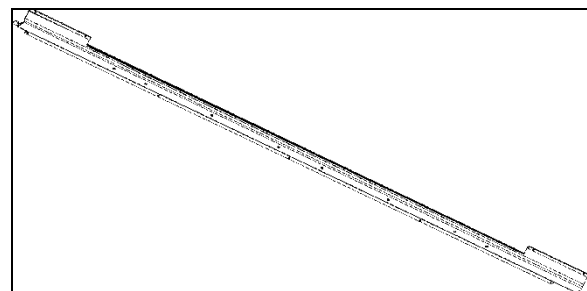

FIGURE 64: LED INDIRECT LIGHTING IN OVERHEAD COMPARTMENT
2. Using a Phillips head screwdriver, unscrew and remove the existing LED strip (FIGURE 64).